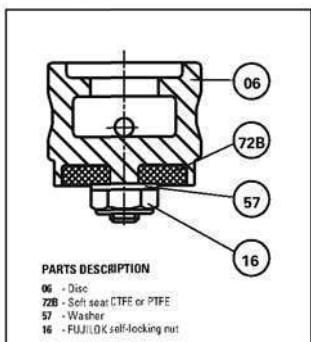

Figure 8.1B Piston disc with replaceable CTFE or PTFE soft seat
2. **CTFE or PTFE seat:** If replacing a CTFE or PTFE seat (Figure 8.1B), carefully unscrew the disc nut (16) from the disc. Remove washer (57) and soft seat (72B). Clean the piston disc soft seat area and disc post threads. Install a new CTFE or PTFE seat, replace washer, screw new self-locking nut with torque given in Table 8.1.